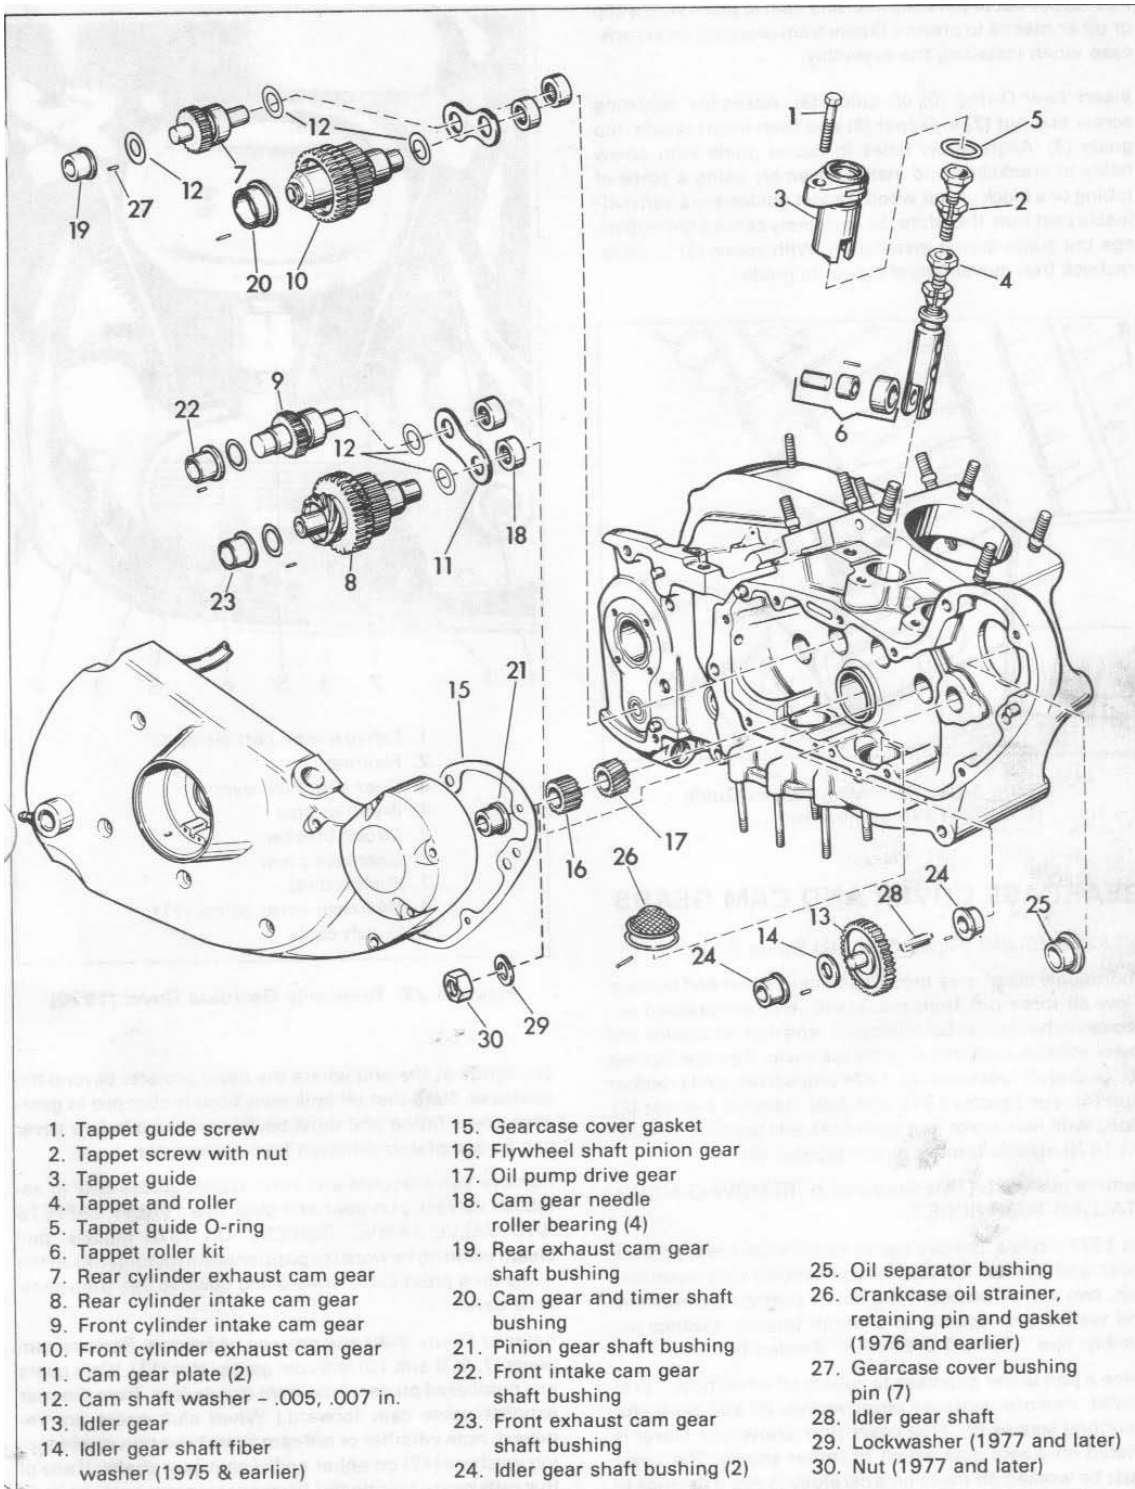

Figure 3-30. Gearcase and Tappet - Exploded View
DISASSEMBLING (Figure 3-30)
CLEANING AND INSPECTING (Figure 3-30)
Discard O-ring (5, Figure 3-30) and replace with a new one.
ASSEMBLING (Figure 3-30)
Refer to Figure 3-30 and proceed as follows. Remove cam gears (7, 8, 9 and 10) and cam gear plates (11). (Cam gears are numbered on cam lobe from one to four, from the rear exhaust valve cam forward.) When cam gears are removed, note whether or not cam gears have thin steel spacing washers (12) on either end of cam gear shafts. If any of the cam gears mentioned have spacing washers, be sure the same ones are used on each shaft when reassembling if the same cam gears and case cover are used again.
DETERMINING CORRECT CAM GEAR END PLAY (Figure 3-30)
On 1977 and later models, install pinion gear on shaft with timing marks aligned. Install lockwasher (29, Figure 3-30) and nut (30, Figure 3-30) and tighten to 50 ft-lbs torque.
Install plates (11, Figure 3-30) in case recess with beveled side of holes for cam shaft facing outward toward cam.